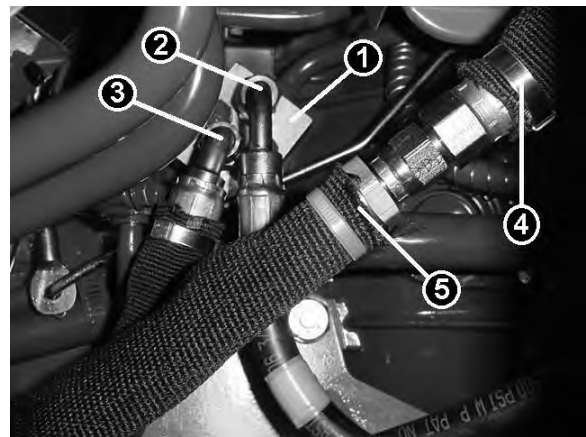
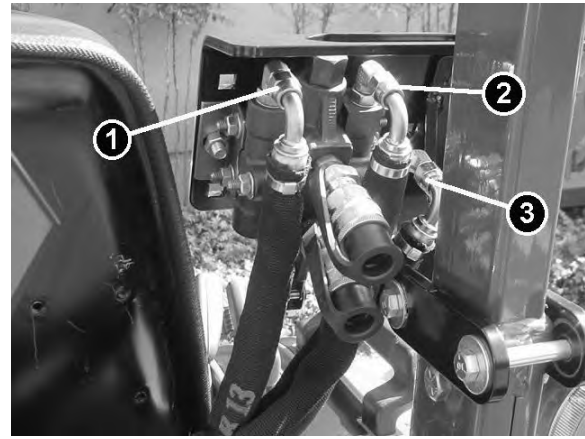
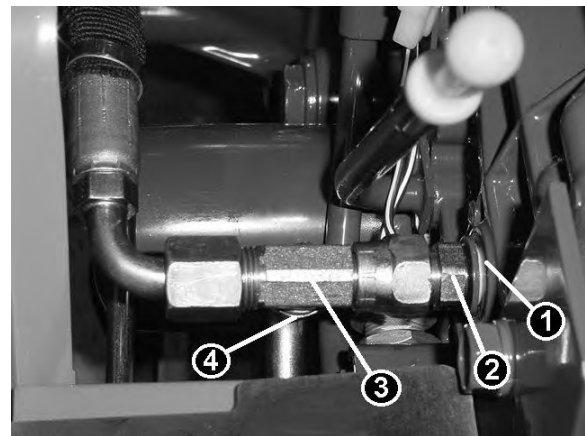

Figure 10.
Figure 11.
Figure 12.
1. Remove cover from tractor mid hydraulic outlet (Figure 10).
2. Install the Hydraulic Block (p/n 75536-68112) using two O-Rings (p/n 75536-68132) and reuse bolts removed with cover. Note: Parts followed by part number are included with loader. Torque bolts to 17 ft-lbs. (Figure 10).
- ◆ Loader applications – Install two 1/4 Male NPTF x 9/16 Male JIC Adapters into each port of Hydraulic Block using Teflon Tape (Figure 10). Note: Two adapters included with loader.
- ◆ Applications without loader – Install 1/4 Male NPTF x 9/16 Male JIC Extra Long Elbow into front “Pump” port angled vertically downwards and 1/4 Male NPTF x 9/16 Male JIC Adapter into rear “Power Beyond” port using Teflon Tape (Figure 10).
- ◆ Applications without loader - Connect the 80” hose from tractor “Pump” port (Figure 10) to rear remote “In” port (Figure 11).
- ◆ Loader Applications – Discard loader “Power Beyond” Hose. Connect 20” hose to loader control valve “Power Beyond” port and route down to tractor hydraulic block, but do not connect. Connect 80” hose to rear remote “In” port (Figure 11) and route down to tractor hydraulic block. Connect these two hoses together. Connect the 82” hose from rear remote “Power Beyond” port (Figure 11) to tractor “Power Beyond” port (Figure 10).
- ◆ Applications without Loader - Connect the 82” hose from rear remote “Power Beyond” port (Figure 11) to tractor “Power Beyond” port (Figure 10).
- (1) “In” Port
- (2) “Out” Port
- (3) “Power Beyond” Port
6. Remove the plug from “Return” port on side of transmission case (Figure 12).
7. Install 3/8 Male BSPT x 3/4 M-JIC Adapter into “Return” port using Teflon Tape (Figure 12).
8. Install 3/4 Female SWV-JIC x 3/4 Male JIC x 3/4 Male JIC Run Tee to “Return” port adapter as shown (Figure 12).
- (1) “Return” Port
- (2) 3/8 M-BSPT x 3/4 M-JIC Adapter
- (3) 3/4 FE-SWV-JIC x 3/4 M-JIC x 3/4 M-JIC Run Tee
- (4) Loader “Out” Hose (3/4 JIC Cap installed here for non-loader applications)
9. Connect 50" hose from rear remote "Out" port (Figure 11) to "Return" port Run Tee (Figure 12).
- ◆ Loader Applications - Connect loader hose from loader control valve "Out" port to remaining Run Tee port (Figure 12).
- ◆ Applications without loader – Install 3/4 JIC Cap on remaining Run Tee port (Figure 12).